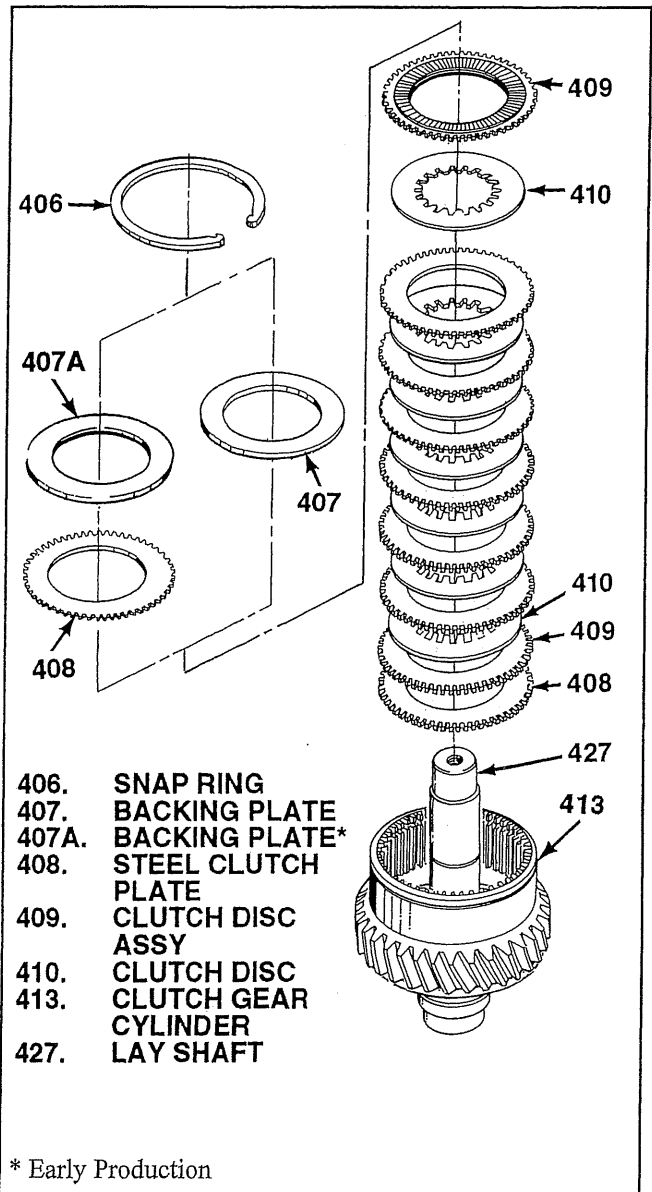
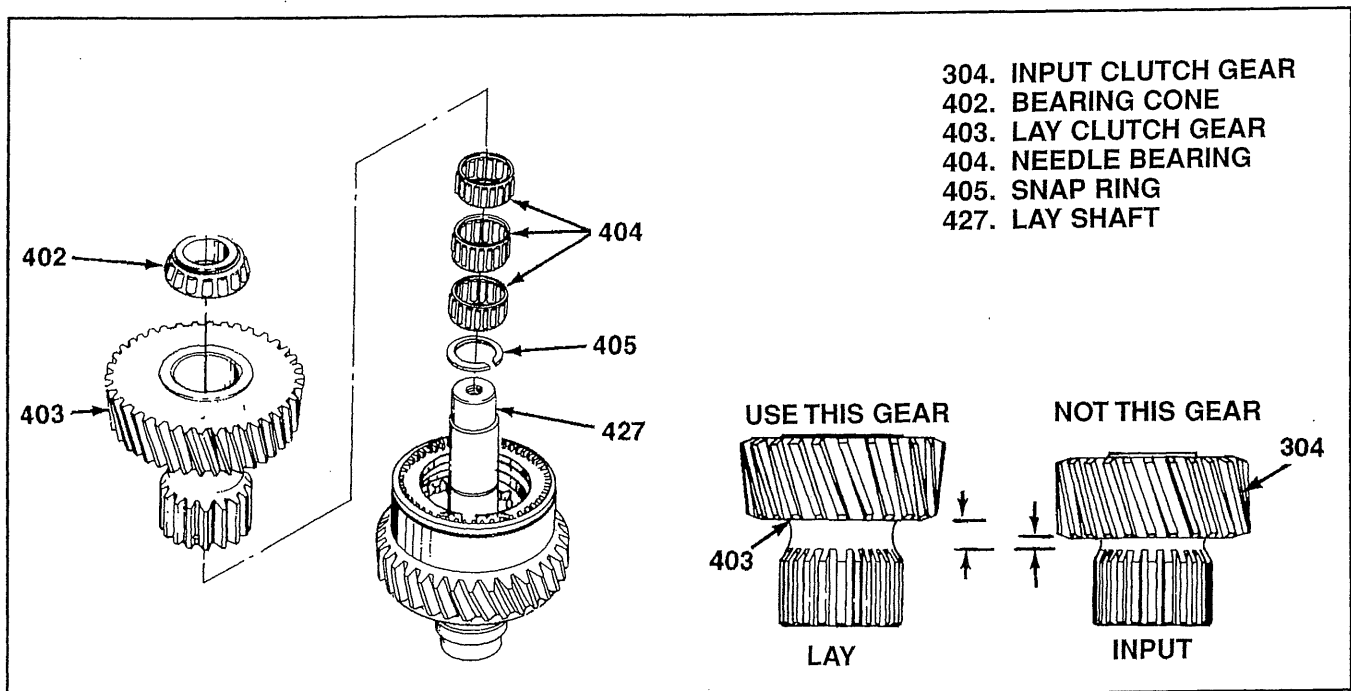

Figure 5-3. Lay Clutch Group
Figure 5-4. Lay Clutch Gear and Bearings
**5-6. ASSEMBLY OF CLUTCH GROUP.** With shaft assembly in holding fixture as described in paragraph 5-5, proceed as follows (see figure 5-3):
1. Align splines and install one steel clutch plate (408) over lay shaft (427), into clutch gear cylinder (413).
2. Starting with one clutch disc assembly (409), alternately install eight clutch disc assemblies and seven clutch discs (410).
3. Install 5.0 mm (0.200 in) thick backing plate (407). If 3.0 mm (0.112 in.) thick backing plate (407A) is used, it must be installed over an additional steel clutch plate (408).
4. Secure clutch group in clutch gear cylinder (413) with snap ring (406).
**5-7. ASSEMBLY OF CLUTCH GEAR AND BEARINGS.** With shaft assembly in holding fixture as described in paragraph 5-5, proceed as follows (see figure 5-4):
1. Install snap ring (405) on lay shaft (427).
2. Select lay clutch gear (403)—not input clutch gear (304) (see figure 5-4). Align splines on clutch discs previously installed and install lay clutch gear (403). This is best done by using a twisting, orbiting motion. Make sure clutch gear is fully installed, engaging all clutch discs. Outside end of gear should be flush to below shoulder on lay shaft (427).
3. Install three needle bearings (404) on lay shaft (427).
4. Position shaft assembly on holding fixture in arbor press. Using drift T-5002, press bearing cone (402) on shaft to seat on shaft shoulder.